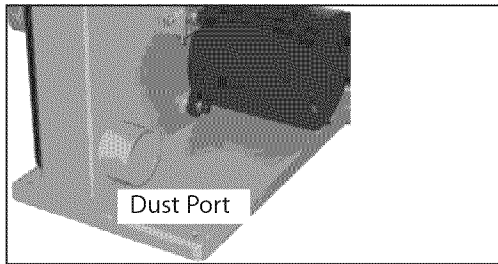

Figure 10 - Dust Port
- The band saw has a 2 1/2" dust port included (see Figure 10).